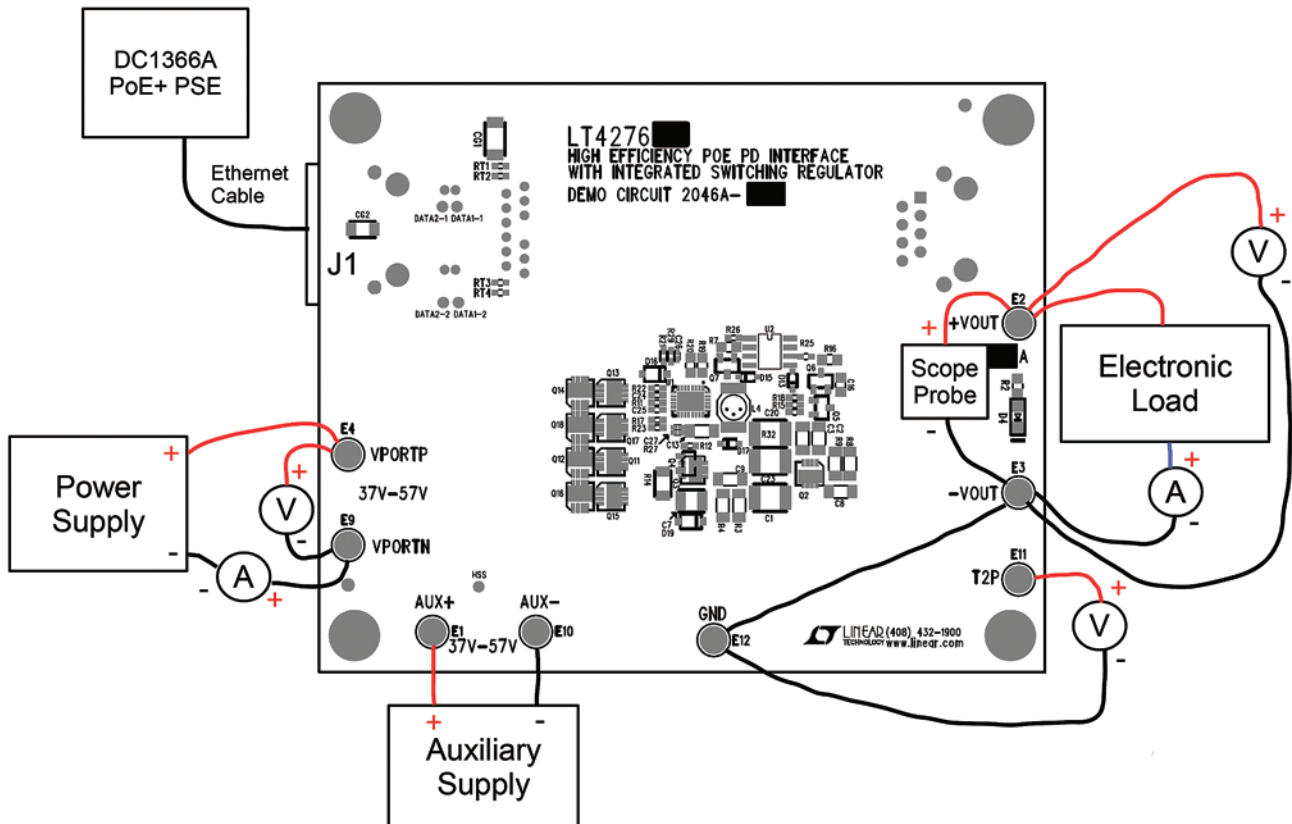

Figure 8. Proper Measurement Equipment Setup
Demonstration circuit 2046A-D is easy to set up to evaluate the performance of the LT4276 in a PoE+ application. Refer to Figure 8 for proper equipment setup and follow the procedure below:
1. Place test equipment (voltmeter, ammeter, power supplies, and electronic load) as shown in Figure 8.
- Connect a PoE+ capable PSE with a CAT-5 cable to the RJ45 connector, J1. See Figure 8.
- Or, connect a 37V to 57V capable power supply (Power Supply in Figure 8) across V_{PORTP} and V_{PORTN} .
- If evaluating the auxiliary power supply (Auxiliary Supply in Figure 8), connect a 37V to 57V capable power supply across $AUX+$ to $AUX-$.